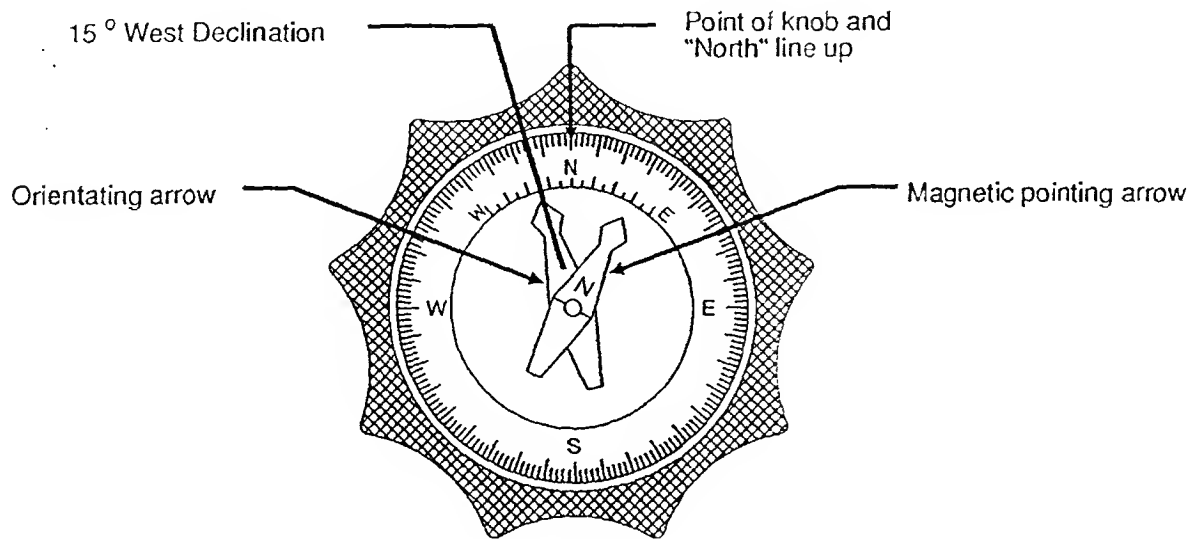

Fig. 4: Magnetic Compass
3. With the right hand, rotate the outer dial until the orienting arrow (the black arrow painted on the inside clear surface) is lined up with the desired Magnetic Declination angle on the declination scale. Notice that East Magnetic Declination is to the right of the "North" position and West Magnetic Declination is left of the "North" position. As an example, Fig. 4 shows the correct setting for 10 degrees west declination, which covers Buffalo, NY, or Philadelphia, PA.
1. Snap the Magnetic Compass into the 3" diameter wedge attachment knob (after setting the Magnetic Declination as described above). Position the compass into the knob so that the 360 degree location on the direction scale (the "North" position) lines up with one of the nine points of the knobs. (See Fig. 4.) Press the compass firmly into the knob.